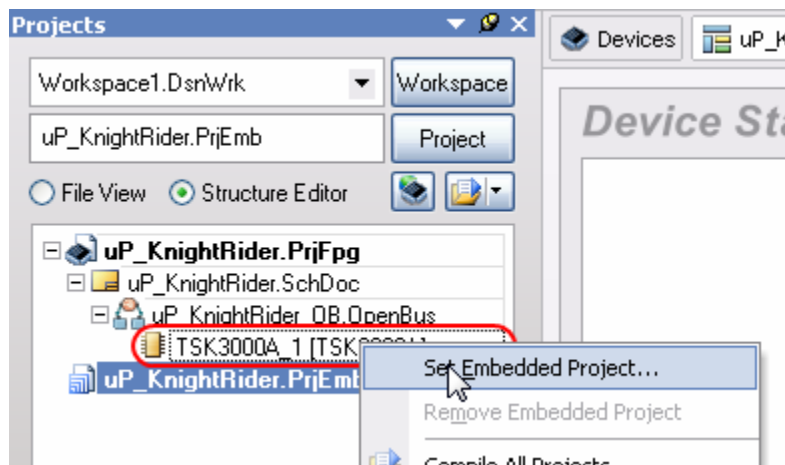

Figure 14. Make the embedded project a child of the FPGA project.
40. To make the embedded project a child of the FPGA project, switch the Projects panel to the **Structure Editor** mode, then right click on the icon for the TSK3000A processor and select **Set Embedded Project** from the menu, as shown in Figure 14.